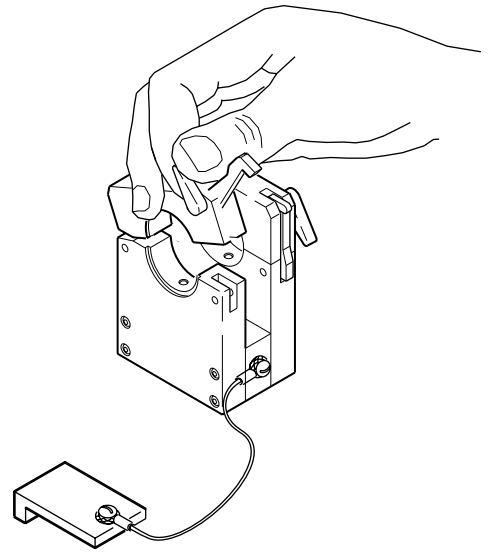

Figure 12 Opening the Fixture Block
1. Release both levers and open the tube fixture block. See Figure 12.